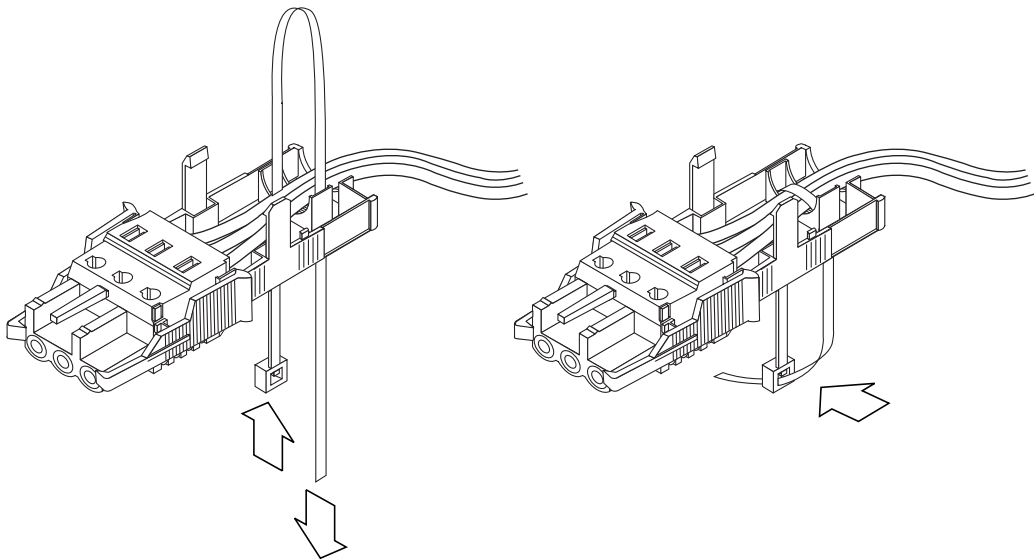

FIGURE 4-8 Securing the Wires to the Strain Relief Housing
3. Insert the tie wrap into the bottom portion of the strain relief housing (see FIGURE 4-8).
4. Loop the tie wrap over the wires and back out of the strain relief housing and tighten the tie wrap to secure the wires to the strain relief housing (see FIGURE 4-8).